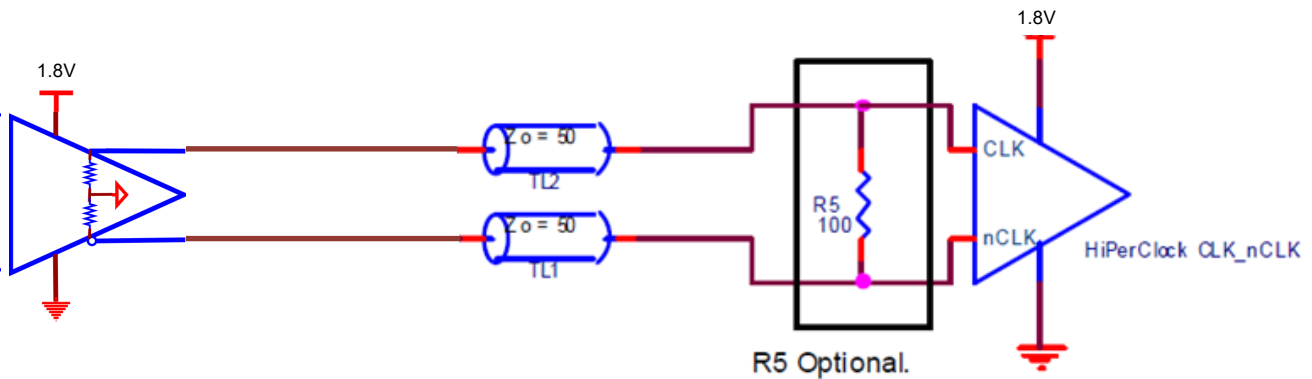

Figure 2. HCSL Internal Termination with Optional Resistor
- Figure 2. HCSL Internal Termination with Optional Resistor3
In the case where there may be discontinuities in the traces due to vias, connectors, etc., then a resistor may be added at the receiver to improve signal integrity (see Figure 2). If R5 is used, it improves the signal quality but reduces the signal amplitude by half due to the double termination.